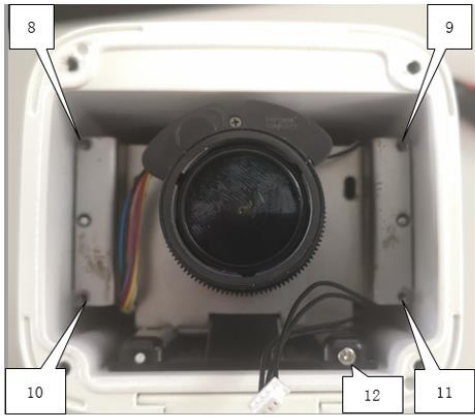

Fig 4
- ④As shown in Figure 4, remove the screw of serial number 8~12 and remove the bracket lens assembly;